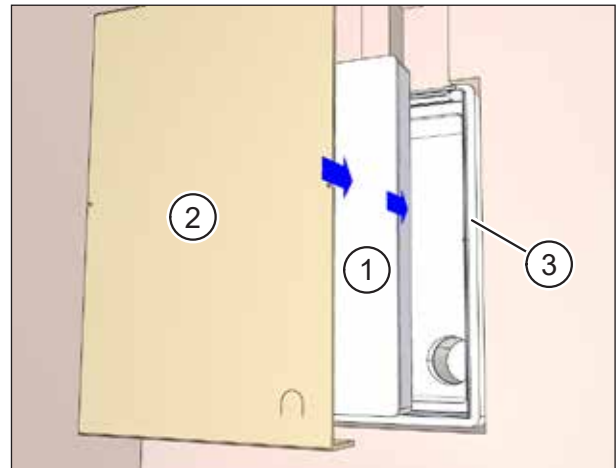

Fig. 23: Inserting the protective cover and plaster cover
- ▶ Insert the protective cover (item 1 in Fig. 23) into the wall box (item 3 in Fig. 23).
- ▶ Insert the plaster cover (item 2 in Fig. 23) into the wall box (item 3 in Fig. 23) as far as it will go.